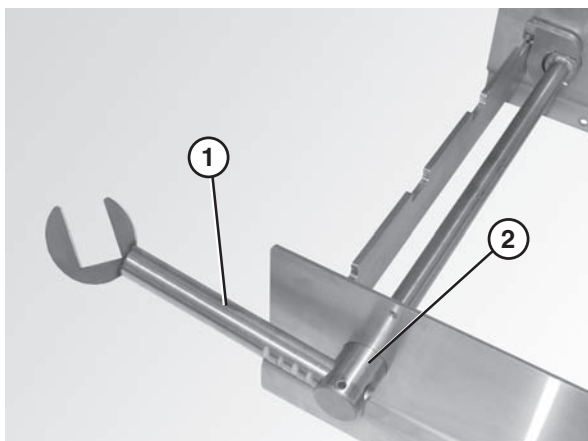

Figure 24
3. Attach nose bar idler shaft hands (**Figure 24, item 1**) to the tip up shaft (**Figure 24, item 2**).